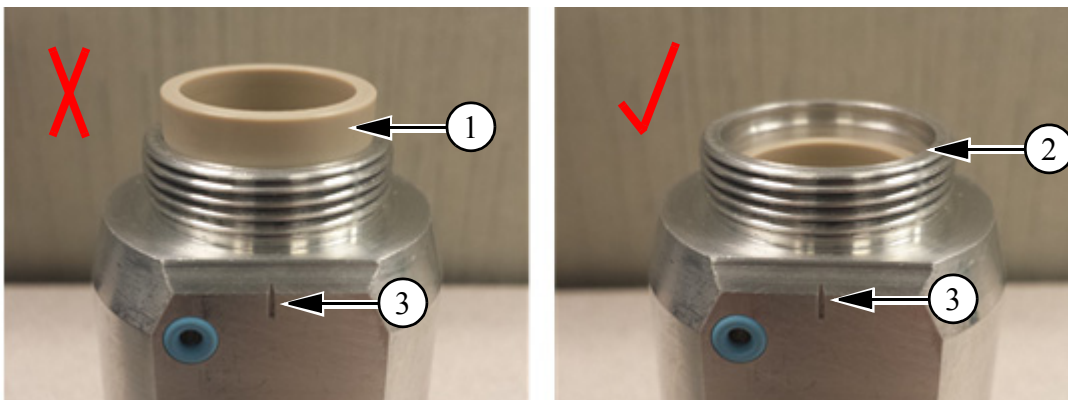

Figure 4-12 Incorrect and Correct Position of the Peek Sleeve
5. Make sure that the PEEK sleeve is sitting lower in the torch body. This will allow room for the additional pieces to be installed (*see Figure 4-12*).